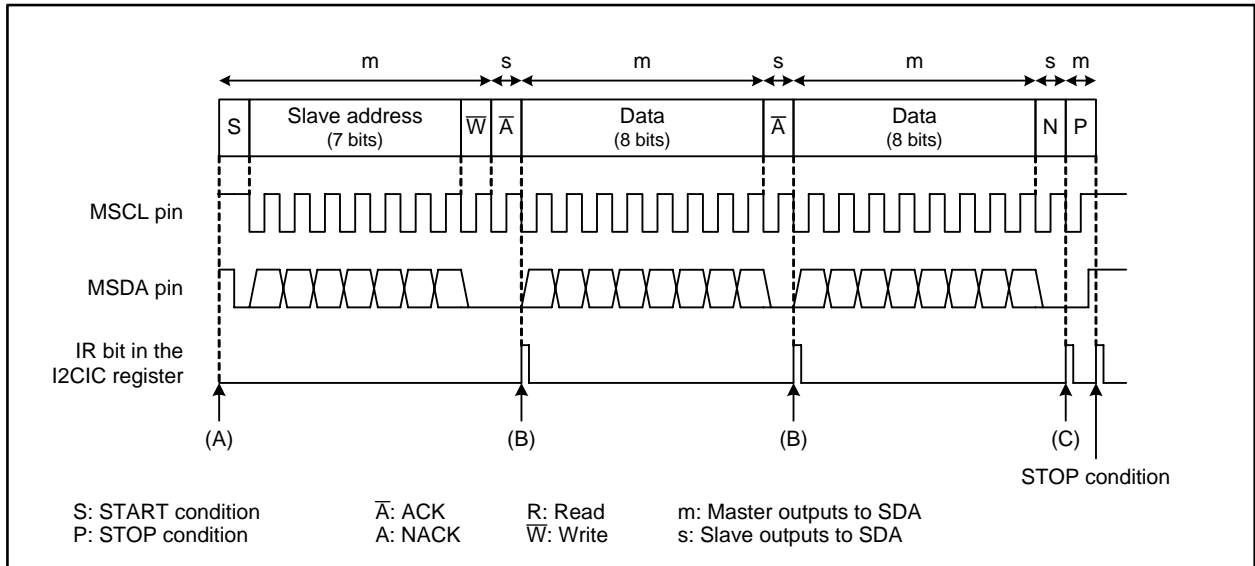

Figure 24.23 Example Operation of Master Transmission
The operation and procedures of master transmission are described in this section. Figure 24.23 shows an example of master transmission operation. For (A) to (C) in the figure, see A to C in the descriptions and procedures below. (1) to (3) show the program's instructions. Arrows indicate that the procedure is performed by the MCU automatically.
In addition to the case where transmission is completed, procedure (C) is required when no ACK from the slave device is received (when a NACK is received as shown in Figure 24.23).